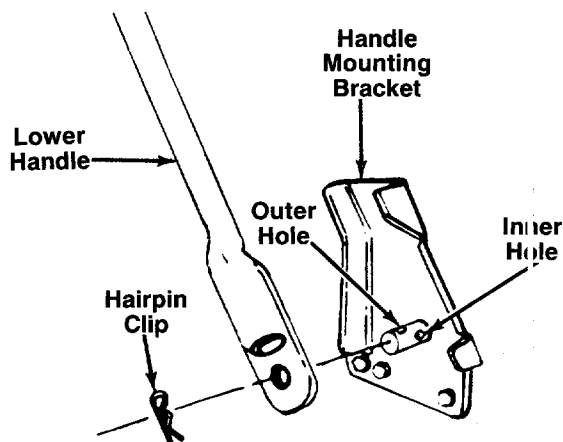

FIGURE 1.
- Using a pair of pliers, squeeze one leg of the lower handle against the handle mounting bracket. Insert the hairpin clip into the **inner** hole on the weld pin. See figure 1.